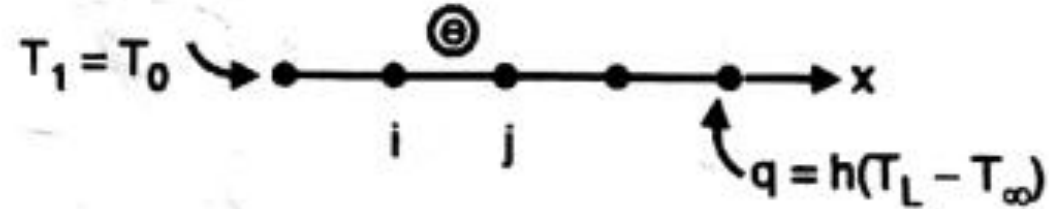

Fig. 5.3.2
- Finite element modelling is shown in below Fig. 5.3.2.